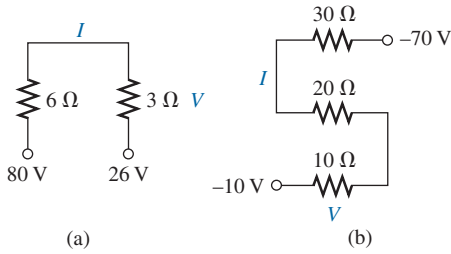

FIG. 5.119
36. Determine the current  $I$  (with direction) and the voltage  $V$  (with polarity) for the networks in Fig. 5.119.